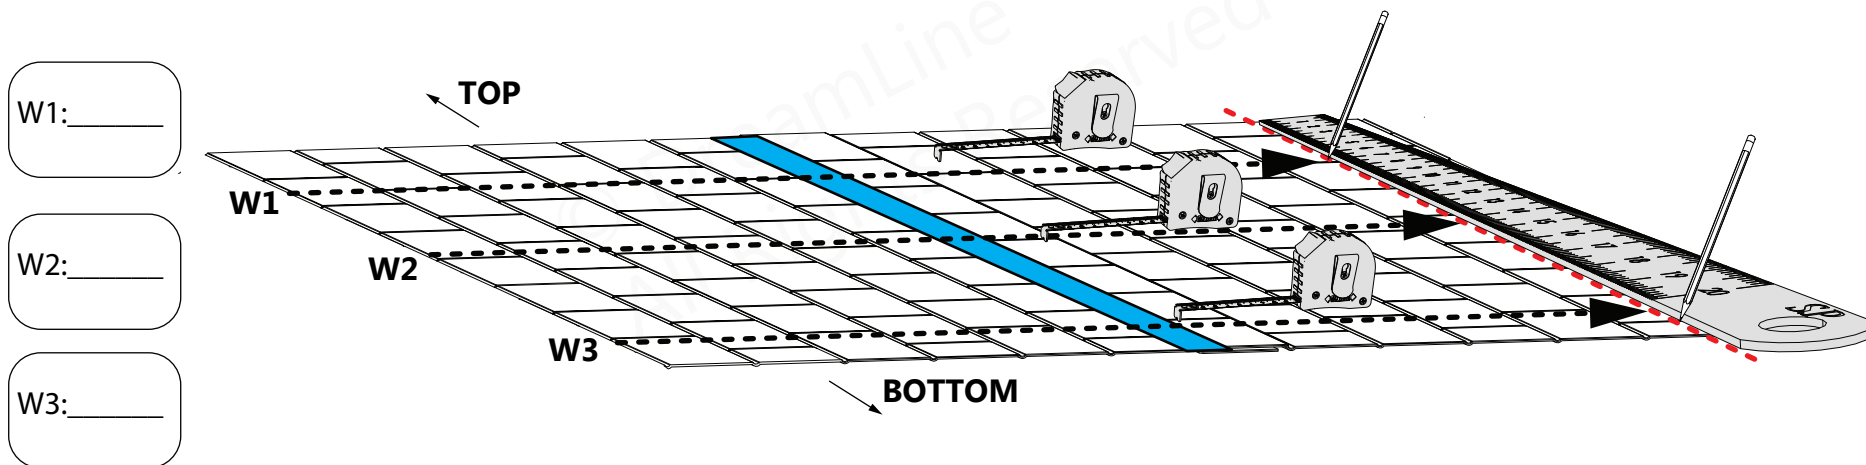

Fig 4
4. Transfer the measurements from Step #2 to the back Q-Wall Back Panels. Measure out from one side to mark the Q-Wall Back Panels, using a straight edge to mark a cut line. The overlap does not need to be centered. **Fig 4**